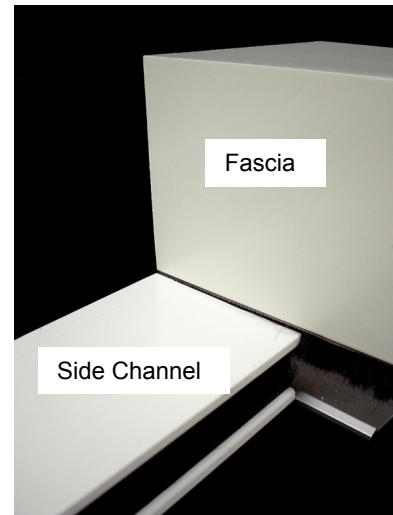

Figure 16 Side Channel Under Fascia
- Place the side channels in position below the back cover (Figure 16) and use an awl to mark the positions of the predrilled mounting holes on the window frame.
- Align the side channels below the back cover (see Figure 16). Make sure they are flush with the ends of the back cover and the large predrilled holes are facing out. Make sure the sill channel fits correctly between them and use a level to ensure they are perpendicular.